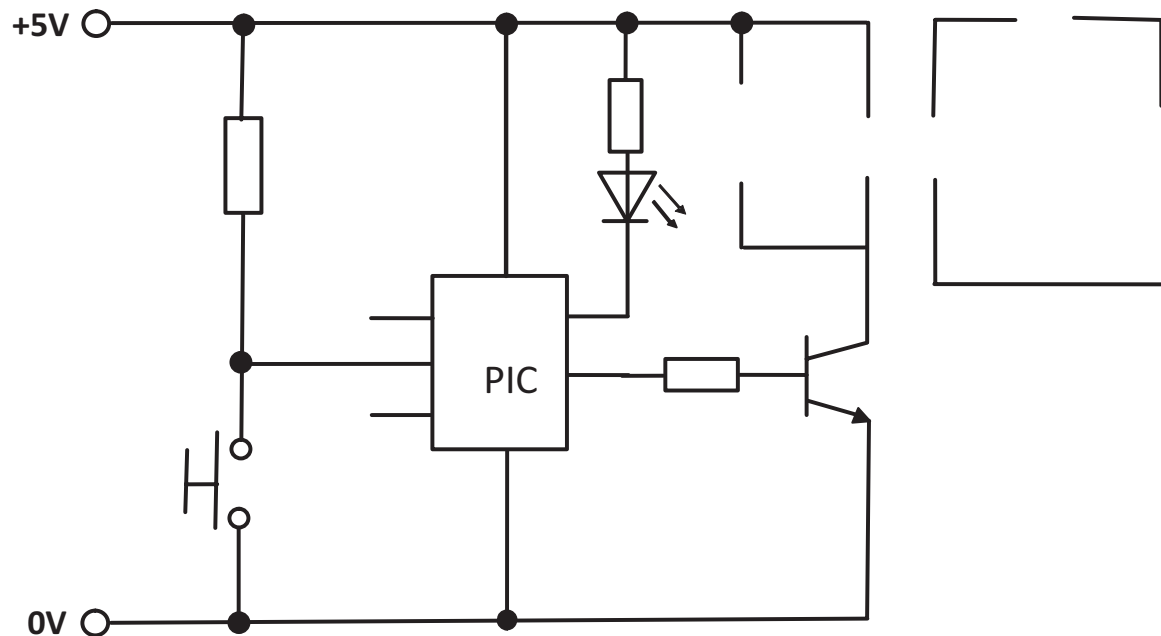

Fig. 7
- (d) Fig. 7 shows a PIC circuit with a number of components missing. Complete the circuit to enable a motor to operate from a separate circuit which uses a 12 volt multi cell battery.